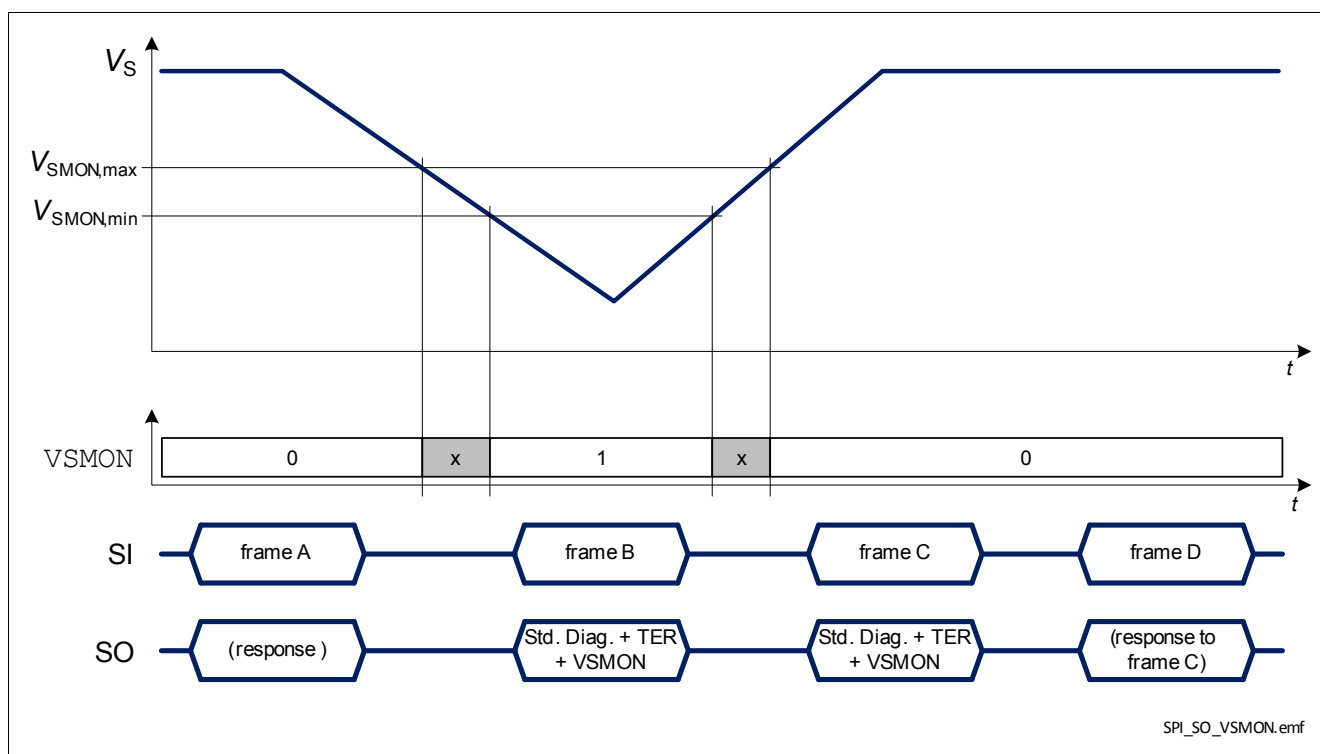

Figure 34 BTS54220-LBA response in case of a negative battery voltage transient
- when $V_S < V_{\text{SMON}}$ and $\text{DCR.MUX} \neq 111_{\text{B}}$, as shown in Figure 34